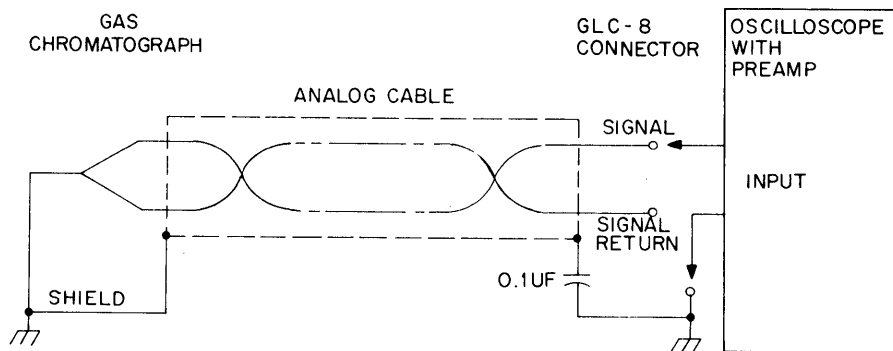

Figure 4-7 Common Mode Noise Analysis Test Setup
c. On completion of the installation of the cable assembly, the common-mode noise content of the installation is measured to determine the error introduced into the system due to common-mode noise. The output of the gas chromatograph is measured from both signal line to shield and from signal return line to shield at the GLC-8 connector with an oscilloscope and preamplifier. The test setup for measurement of common-mode noise is shown in Figure 4-7. As previously mentioned, the system has a common mode rejection ratio of 120 db, at 60 Hz with a worst case source unbalance of 1000 ohms. Therefore, for each volt of common-mode voltage measured, one microvolt of noise will be seen at the A/D converter. If the minimum signal output of the gas chromatograph is 10 μV , it follows that the maximum noise that the system can tolerate is 10V. If the measured common-mode noise is 10V or greater, the grounding system of the gas chromatographs should be modified as indicated in the installation and planning sections.